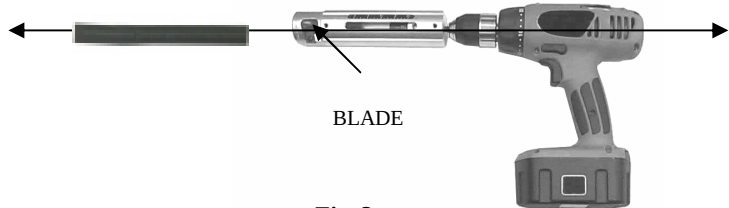

Fig. 2
Step 2. (Fig. 2) To ensure consistent and accurate removal of covering, the cable must be as straight as possible. Slide the tool onto the cable until the cable end is up against the stripping blade. Ensure that the tool is aligned properly with the cable axis.